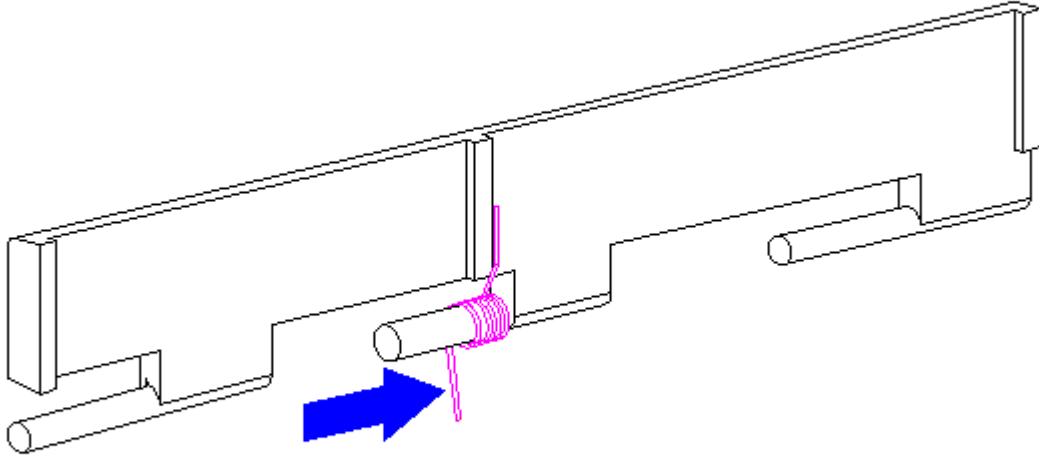

Figure 3-25. Replacing the PC Card Spring (All Models)
1. Install the PC Card spring on the door post, ensuring that the bent arm of the spring is placed against the rib on the PC Card door (Figure 3-25).